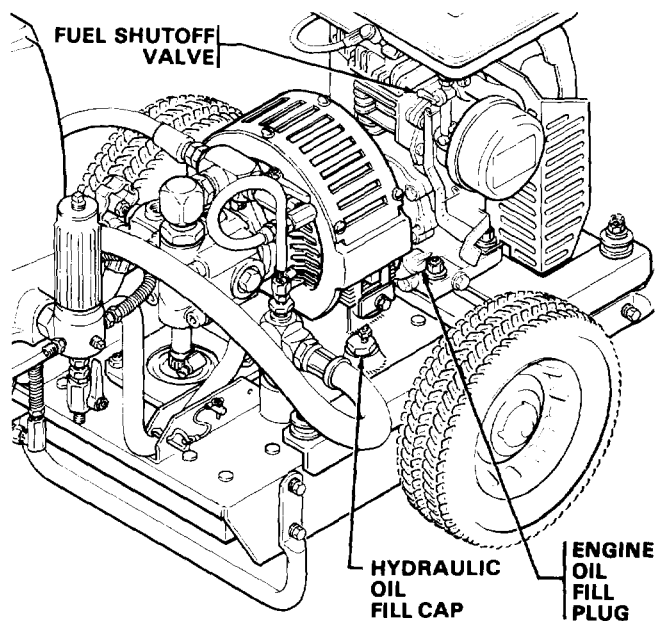

Fig 3
- a. Remove the plastic cap plug from the fluid filter (88) outlet nipple and screw on the fluid hoses (170a, 170b) and the spray gun (170c).
4. **Fill the Packing Nut/Wet Cup (141)** 1/4 full with Graco Throat Seal Liquid (TSL), supplied.
- a. Unscrew the oil fill cap. See Fig 3. The dipstick is attached to the cap. Wipe off the dipstick and set it in the hole, but do not thread it in place. The oil should be up to the full line on the dipstick.
- a. Unscrew the oil fill plug. See Fig 3 and 4. The dipstick is attached to the plug.
- a. Close the fuel shutoff valve. See Fig 3.